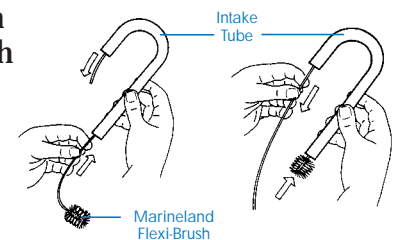

FIGURE 8
5. Remove **Intake Tube** and clean inside with a flexible filter brush (Fig. 8). We recommend the **Marineland Flexi-Brush** - available at your aquarium store.